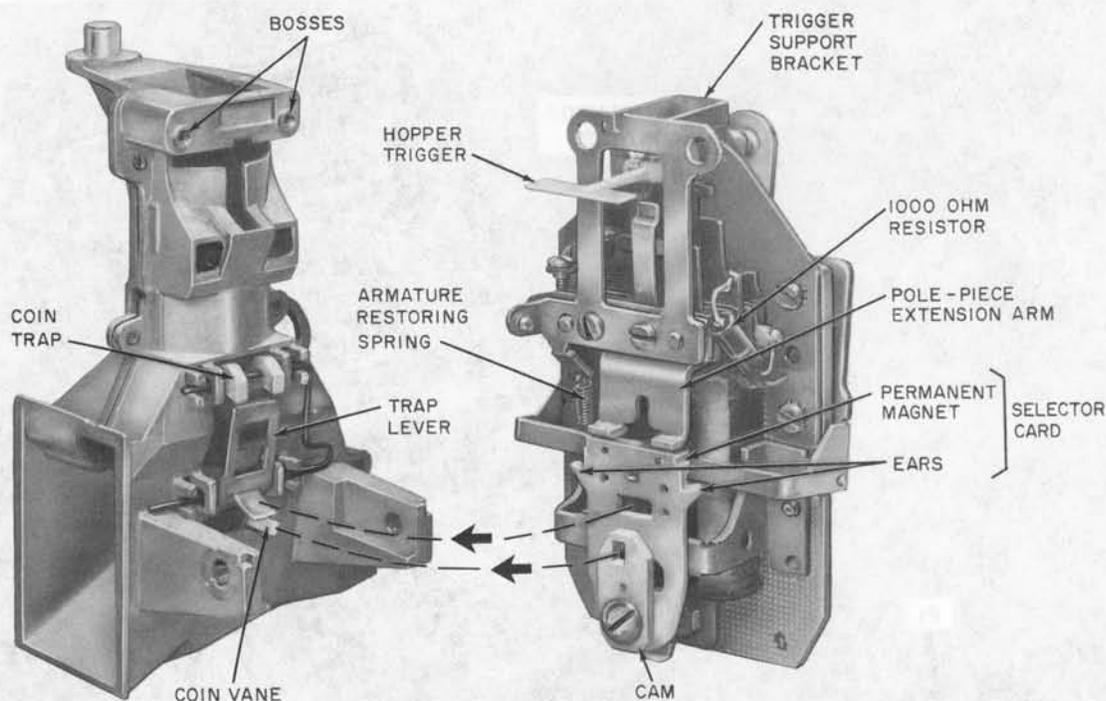

Fig. 8—1AA Coin Relay
E. Coin Relay and Hopper Assembly (Fig. 8)